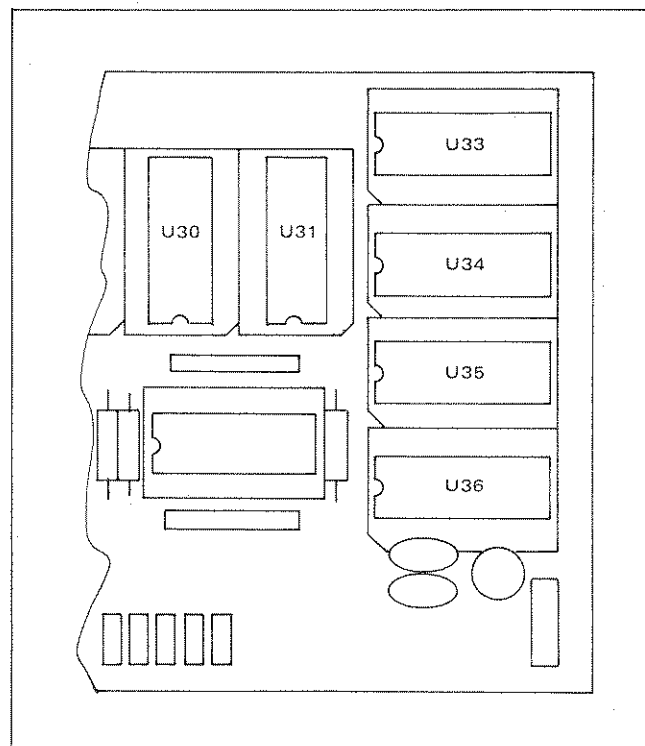

Figure 3.2 - ROM Location
- c. Remove the Computer III board (J7) from the 9000 and install the ROMs as shown in figure 3.2. Reinsert the Computer III board at J7.